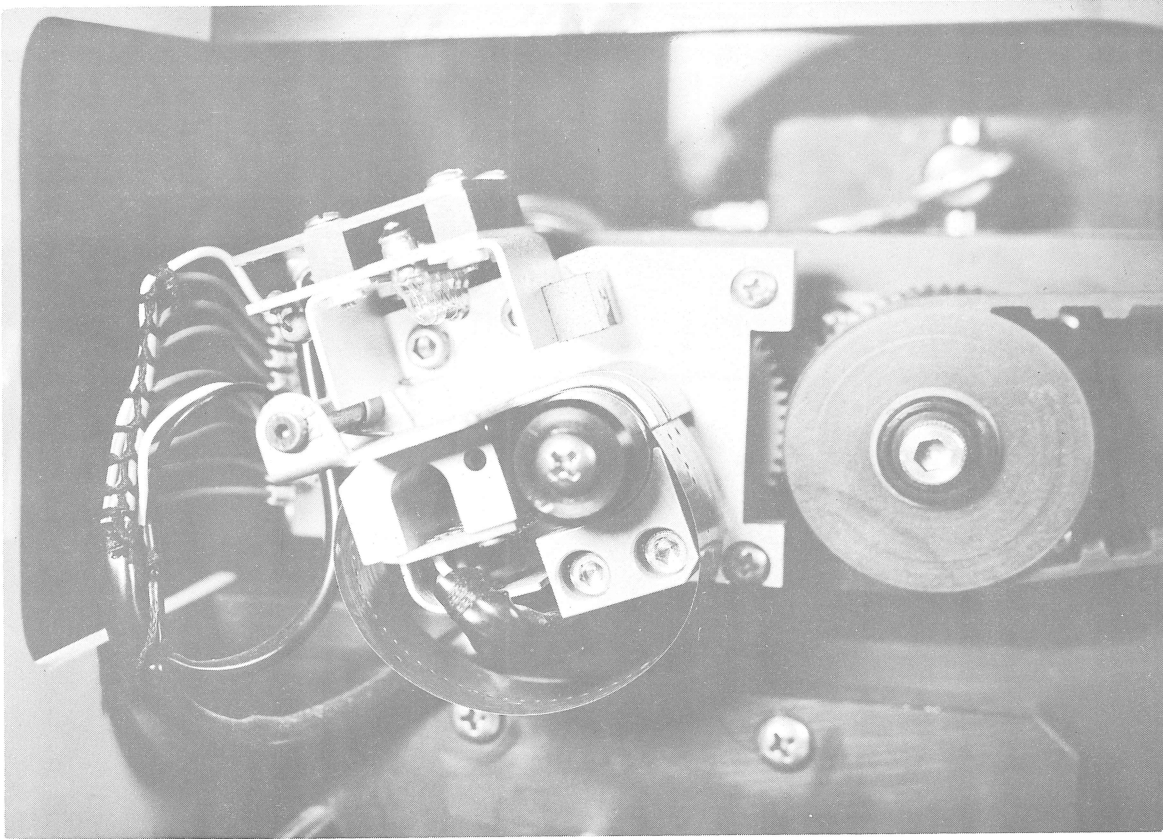

Figure 8. Vertical Format Unit (VFU) Mechanism
**VERTICAL FORMAT UNIT MECHANISM.** The vertical format unit (VFU) mechanism (see Figure 8) controls the feeding and sensing of a punched tape loop used to slew paper to a predetermined vertical format. The format wheel is geared to the paper feed shaft and turns an amount proportional to the advance of paper for the printing of each line. The turning of the format wheel feeds the format tape over a light source and eight format sensing photodiodes. When the punched format tape is inserted between the light source and the sensing photodiodes, each column of holes on the tape is aligned to pass above a sensing photodiode. The program uses the Slew to Tape (SLT) instruction to activate the VFU. The spacing of the holes in the channels (columns) of the format tape determine the number of lines to be skipped during printing. Each of the eight channels of holes in the format tape may contain a different print pattern, so as many as eight vertical formats may be available on each tape. The program instruction SLT determines which of the eight photodiode circuits is to be closed, thus which photodiode is to be activated. When the photodiode senses light and detects the proper hole, a signal is generated to halt the slew operation. Directions for making a VFU tape are given on page 40.